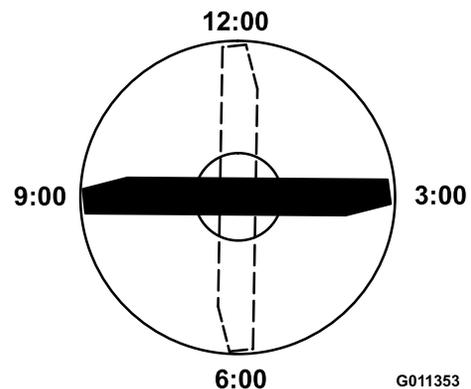

Figure 101
4. Position the cutting edge of the marked end of the blade at 12 o'clock (straight ahead in the direction of mowing) (Figure 101) and measure height from table to cutting edge of blade.
5. Rotate the marked end of the blade to the 3 and 9 o'clock positions (Figure 101) and measure the heights.